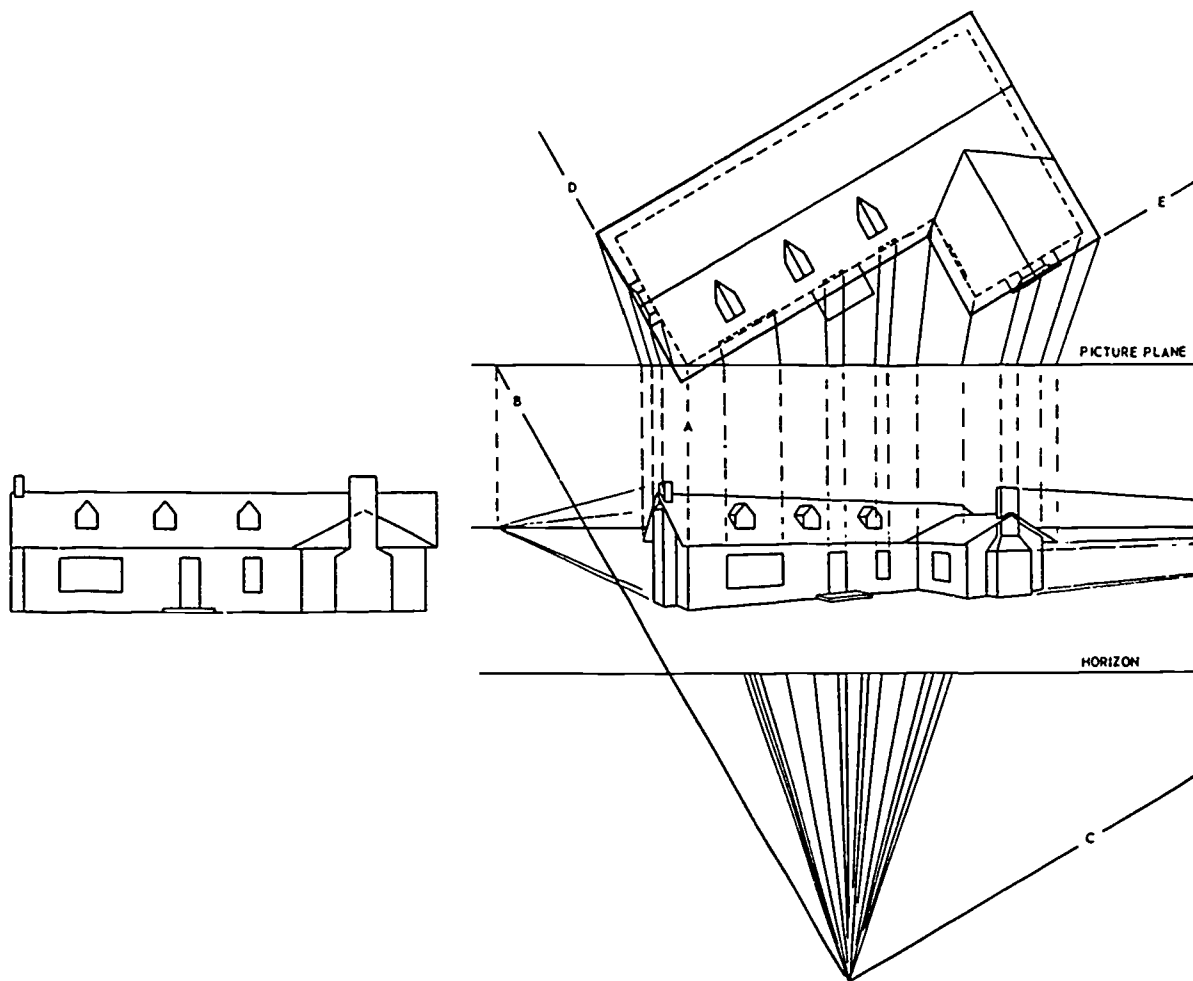

Figure 4-116. Plan and elevation views.
**Making a Plan and Elevation View.** Plan and elevation views can become very complex; compound forms are to be expected. When making such a plan and elevation view in perspective, the first step is to draw a line to represent the picture plane. The plan view is arranged behind the picture plane with the nearest corner of the building just touching the picture plane (A) as shown in figure 4-116. Next, select the station point. Make the station point approximately the center of the plan view at a 30° overall angle.
2. Why is line (A), figure 4-116, the most important line?